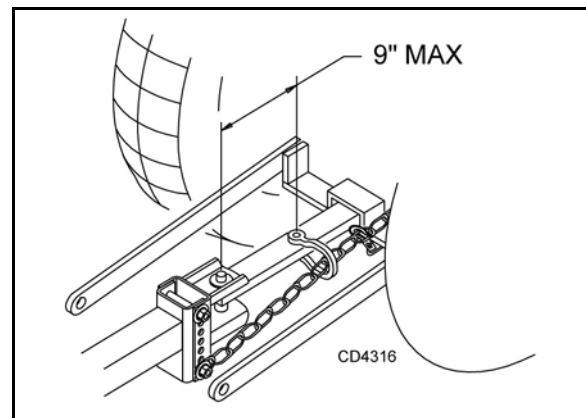

Figure 3. Safety Tow Chain Installation
5. Attach the safety chain to the prime mover with the maximum distance between hitch pin and intermediate support/primary attaching point. See Figure 3. Route safety chain through hose holder when not in use.